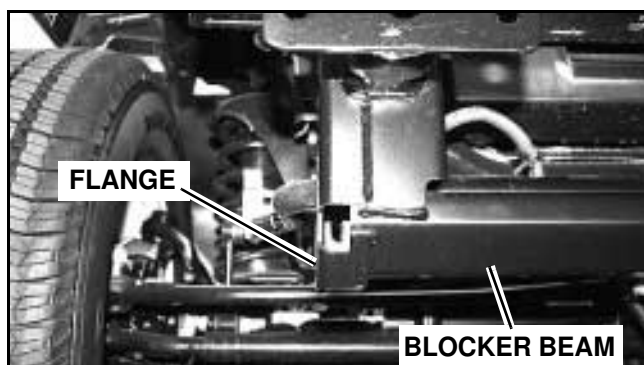

Figure 1
2. **For 2010 and later models only:** Using a cut off wheel, grind flange flush to blocker beam as shown in Figure 1, 2, and 3. Approximately 1/2" of material will be removed. Dress the area that was cut to remove any sharp edges.